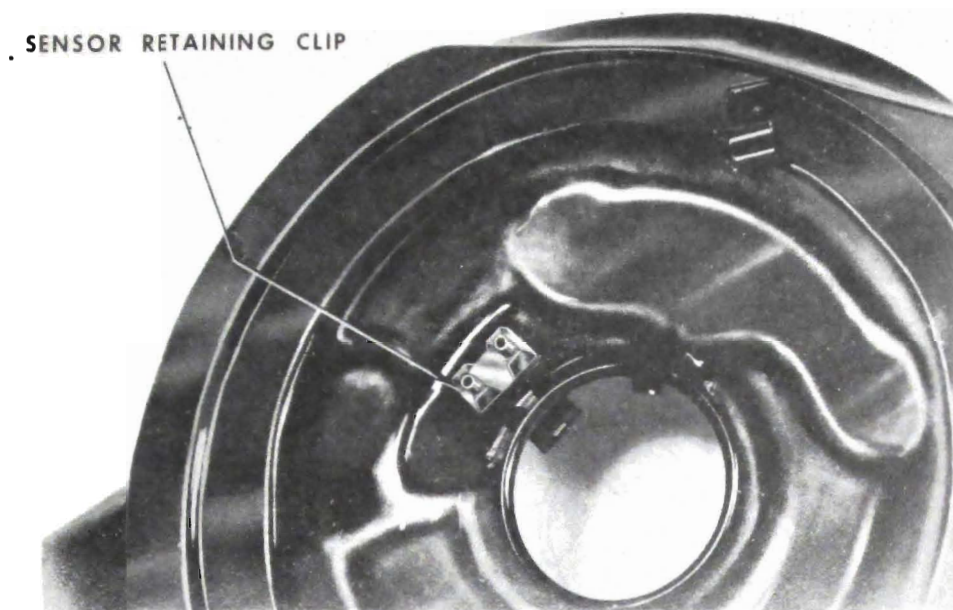

Figure 67-6 - Replacing Sensor Assembly
1. Remove two sensor retaining clips by prying. See Figure 67-6.